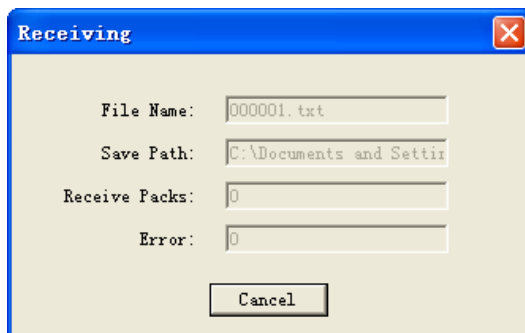

Fig. 11-1-3-3
5. After the file receiving, the status bar of the dialog displays “Received”, as is shown in fig. 11-1-3-4